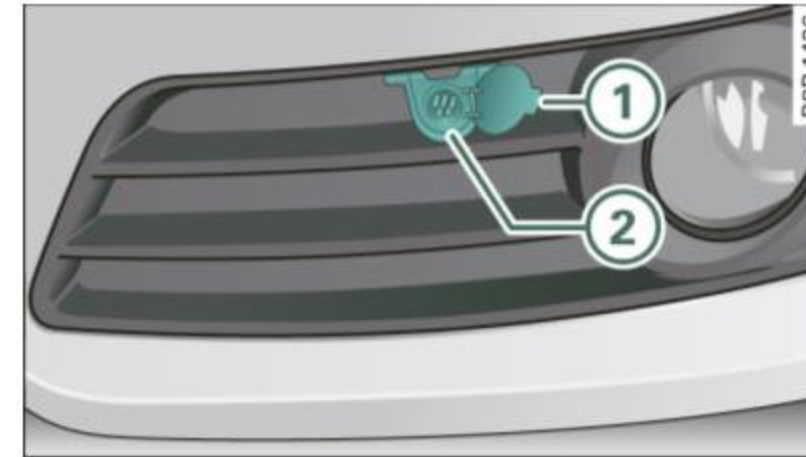

Fig. 105 In the left front bumper: engine preheater connection socket
- Open the cover ⇒ fig. 105 ①.
- Plug the connecting cable into the socket ② ⇒ ⚠.
- Always disconnect the connecting cable and close the cover ⇒ *page 103*, fig. 105 ① before starting the engine.